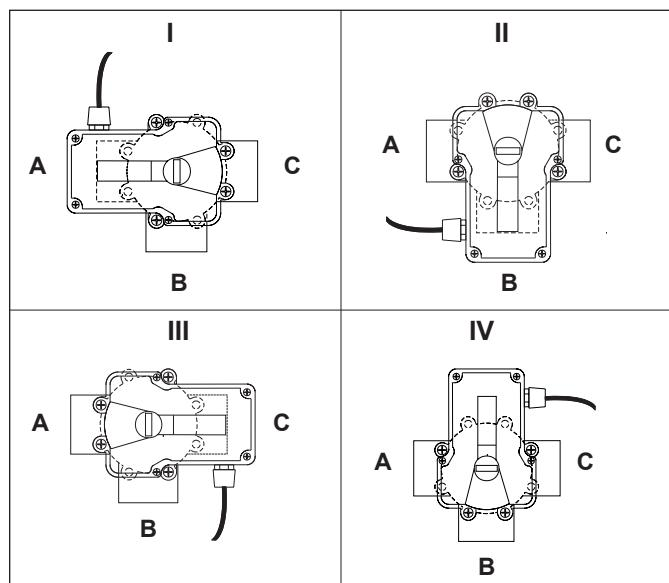
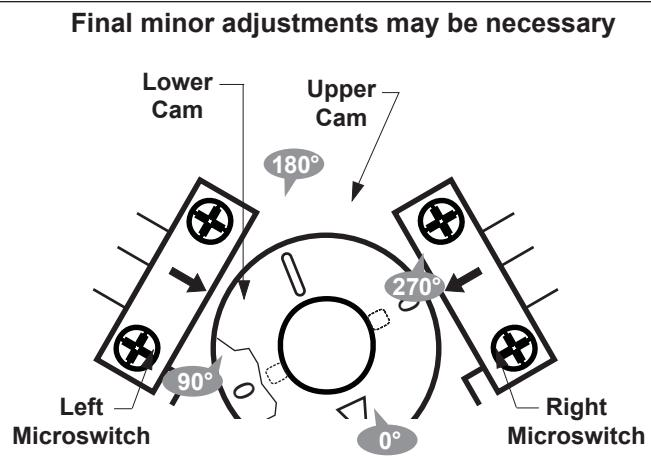

Figure 9. JVA Mounting Positions.
Figure 10. JVA Cams
NOTE Before resetting cams, if the valve is plumbed in **Standard Plumbing** position and the actuator is in **Standard Mounting** position *there is no need for resetting the cams* (see Figure 9). If a port other than "B" is plumbed as the common port or if the actuator is mounted other than **Standard Mounting**, the cam setting must be changed so the actuator shaft and the valve diverter rotate properly. Refer to the Cam Setting Chart on page 8 for proper settings.
2. Remove the four (4) Phillips head screws that secure the actuator lid and then remove the lid.
3. **Important** - Rotate the actuator shaft so the arrow mark on the top cam aligns with the microswitch actuator (bottom cam arrow mark should also align with the bottom microswitch actuator, see Figure 10). Locate the mounting position for the actuator (as per Figure 9, the mounting position will be either I, II, III, or IV). Next, determine what valve port is the common or inlet port (as per Figure 9, the common port will be either A, B, or C). Then refer to the Cam Setting Chart below to determine what the cam settings should be. For example, if the actuator is in JVA mounting position "I", and the common port on the valve is port "A", the cam settings would be 90° for the top cam and 180° for the bottom.